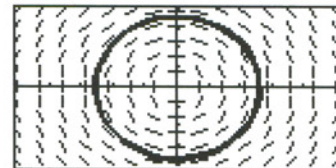

Figure 7.11
6. Another way to see the circular nature of the solution in this situation is to look at a phase diagram, changing the axes editor (**[F4] AXES**) to $x=Q1$, $y=Q2$, change the differential equation format screen (**[F1] FORMT**) to **DirFld**, and change the differential equation window editor (**[F2] WIND**) to **tMin=0**, **tMax=10**, **tStep=.1**, **tPlot=0**, **xMin=-.5**, **xMax=.5**, **xScl=.1**, **yMin=-.4**, **yMax=.4**, **yScl=.1**, **difTol=5E-4**. Leave the initial condition as $Q11=.26179938779915$, $Q12=0$. (Figure 7.11)